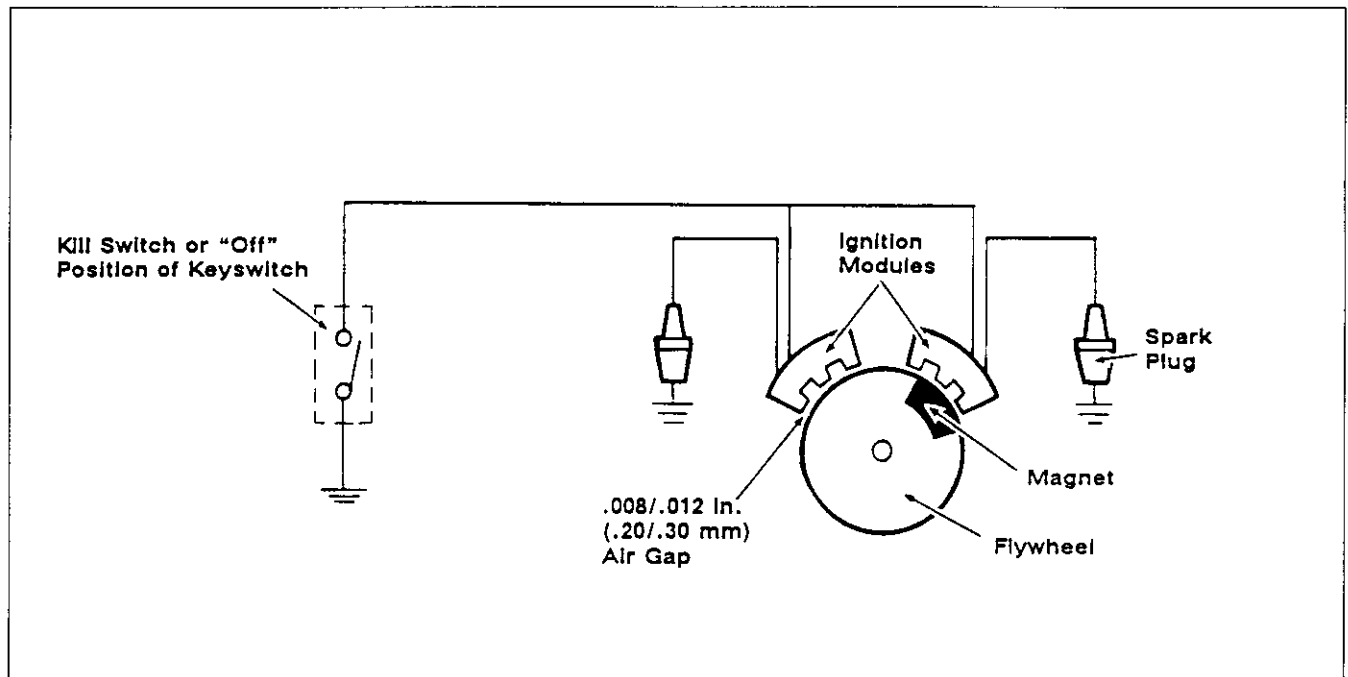

Figure 8-4. Capacitive Discharge Ignition System.
- Two electronic capacitive discharge ignition modules which mount on the engine crankcase (Figure 8-4).